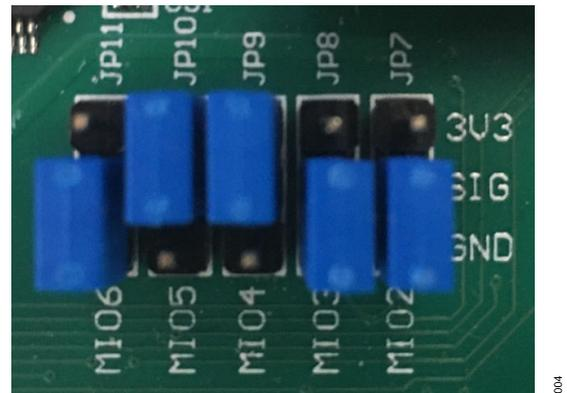

Figure 4. ZedBoard Boot Configuration Jumpers
4. Ensure the ZedBoard boot configuration jumpers are set to use the SD card as shown in Figure 4. To avoid potential damage, ensure the VADJ SELECT jumper is set to the correct voltage for the EVAL-AD4858FMCZ.